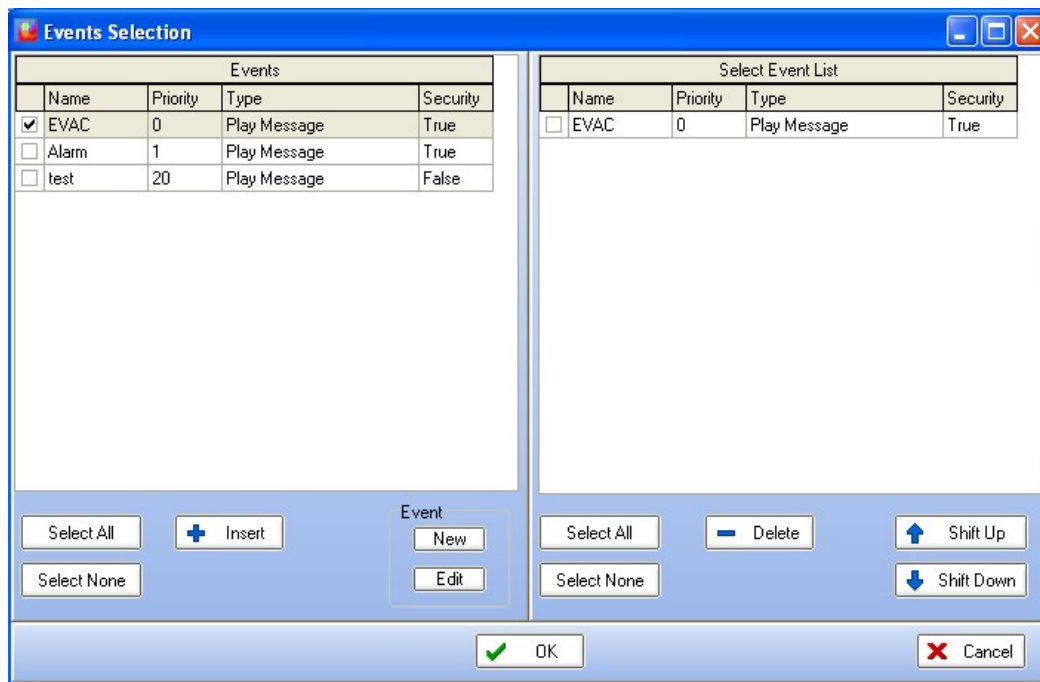

Figure 23: Evacuation Inputs Event Selection page
- Click on the “Start” under “Event Setting” for channel 1. You will enter in the “Event Selection” page, see Figure 23.